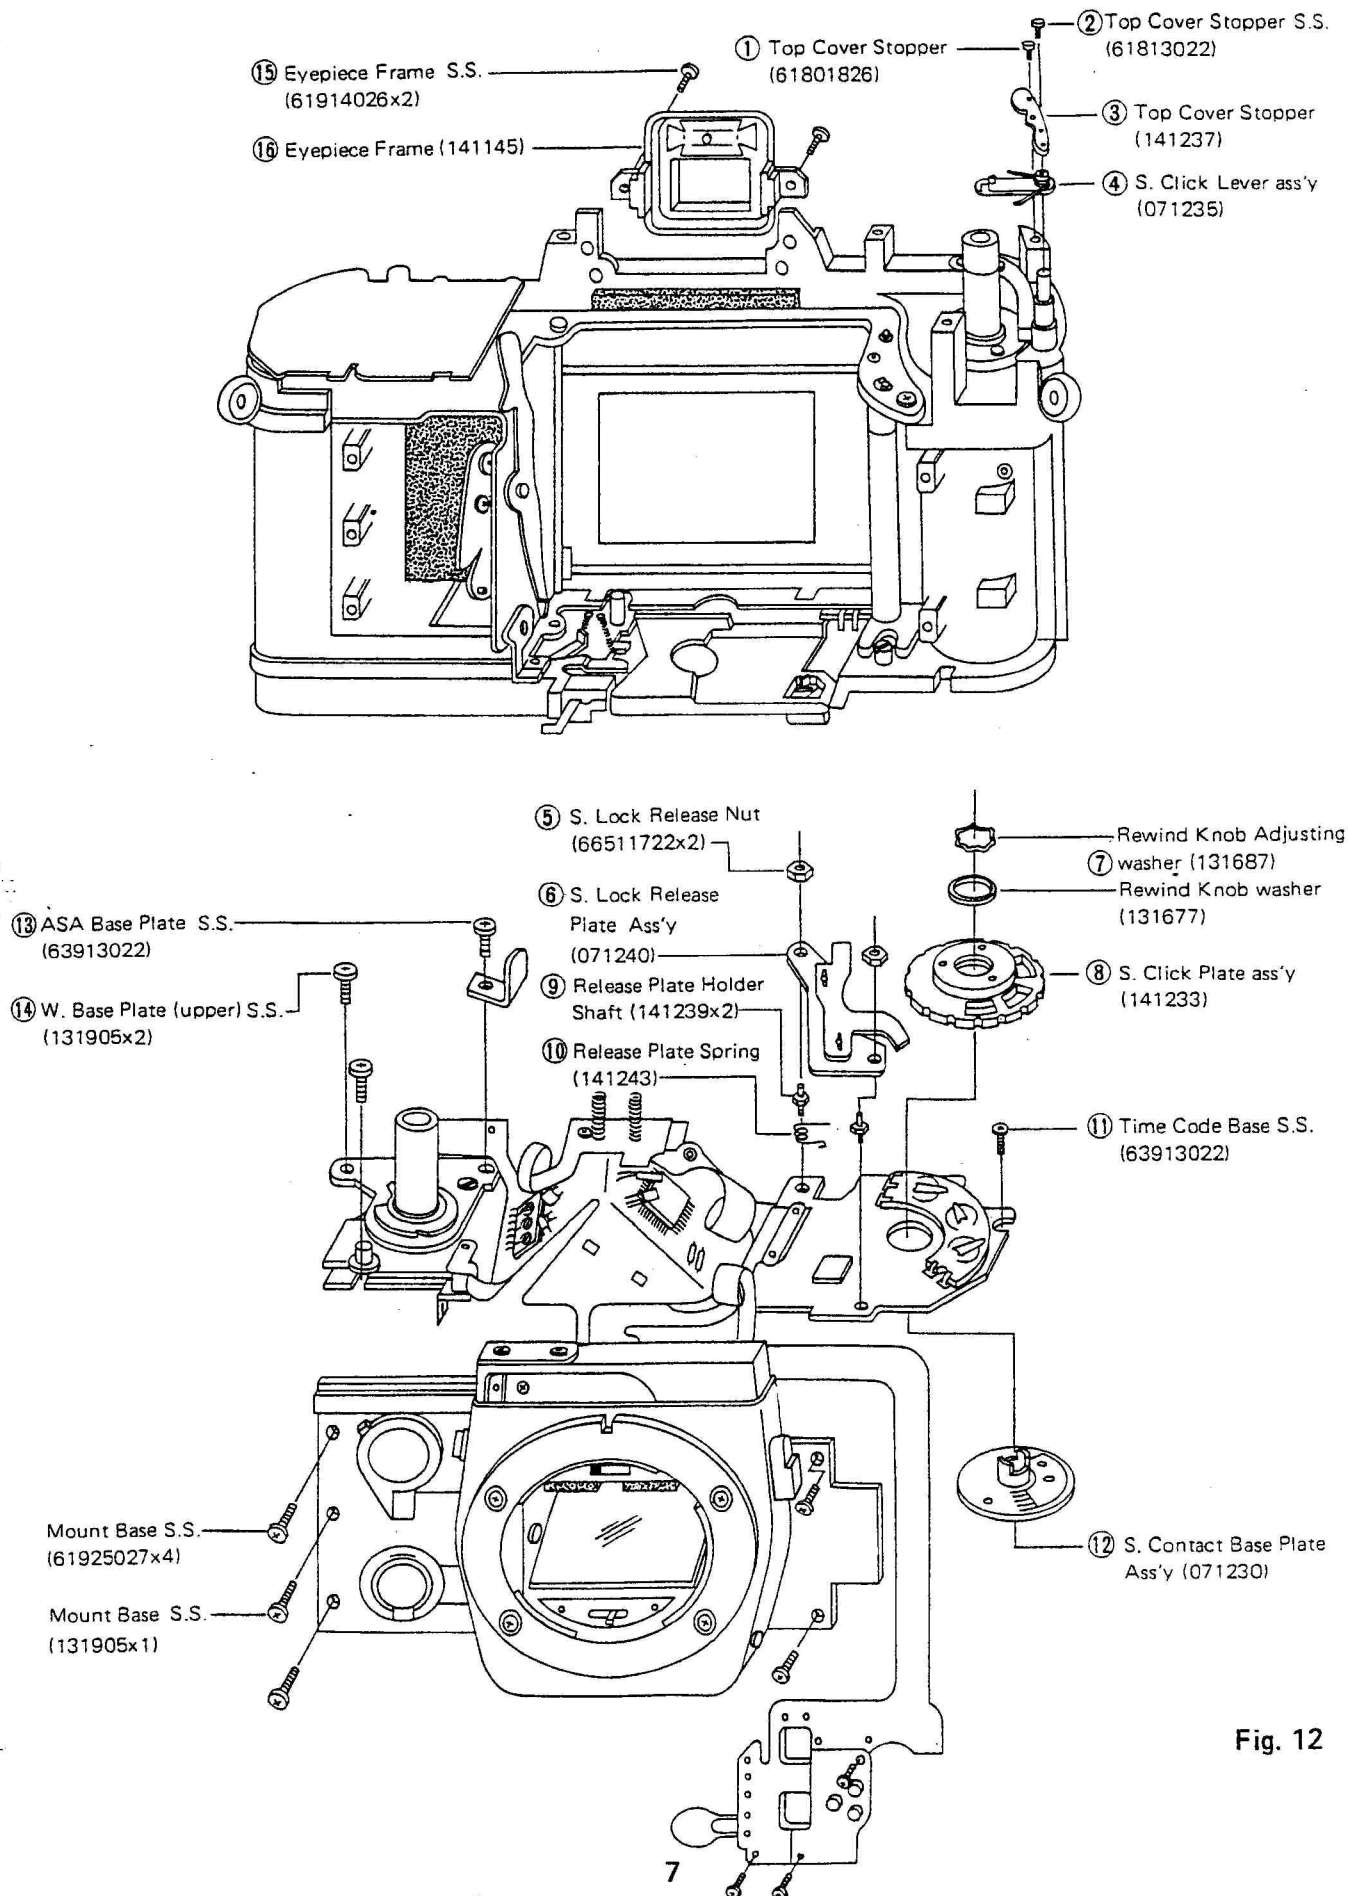

Fig. 12
- c) Remove the respective parts ① ~ ⑩ shown in (fig. 12) on page 7 on numerical order.
- e) Remove Mount Base S.S.(61925027x4, 131905x1) and Mount Base Ass'y gently. (Mount Base Ass'y will be removed together with ASA Base Plate Ass'y, FPC and Mirror Box Ass'y.) (fig. 12)